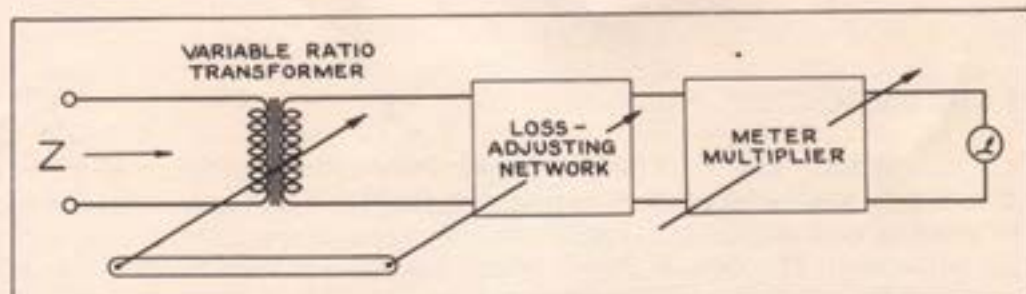

Figure 2. Schematic Diagram of Type 583-A Output-Power Meter.
1.2.1 GENERAL. (See Figure 2.) The Output-Power Meter is functionally an adjustable load impedance, with a voltmeter calibrated directly in watts dissipated in the load. The input is actually connected through a multitap transformer and a resistance network to the output meter.